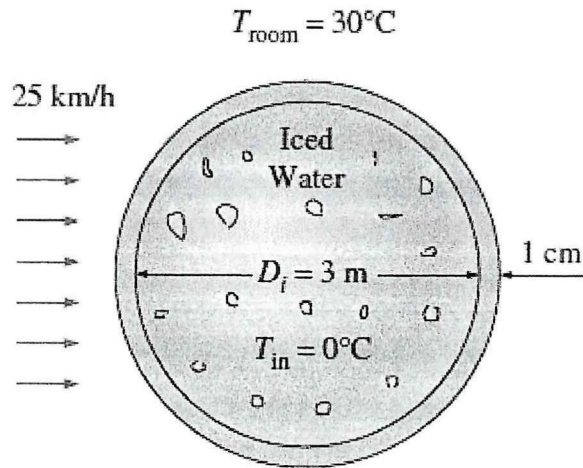

Figure Q4(c)
- (a) A 3-m-internal-diameter spherical tank made of 1-cm-thick stainless steel ($k = 15 \text{ W/m} \cdot ^\circ\text{C}$) is used to store iced water at 0°C as shown in **Figure Q4(c)**. The tank is located outdoors at 30°C and is subjected to winds at 25 km/h. Assuming the entire steel tank to be at 0°C and thus its thermal resistance to be negligible, determine Disregard any heat transfer by radiation.